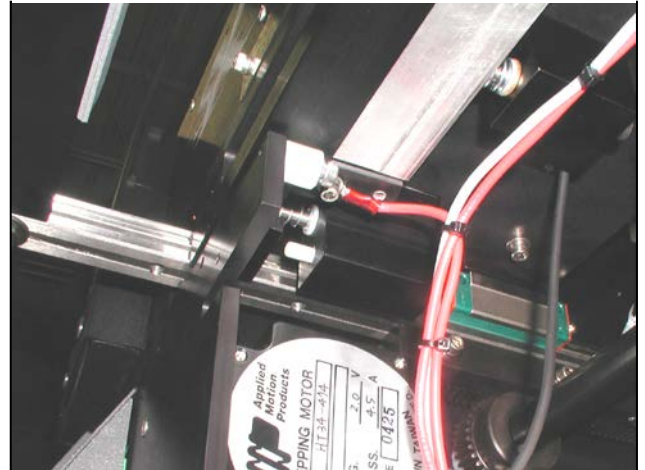

Figure 3-63. Left side Seal Bar connection
3. Remove the Left screw holding the Red wire to the Seal Wire. Pull wire away from contact (Figure 3-63).